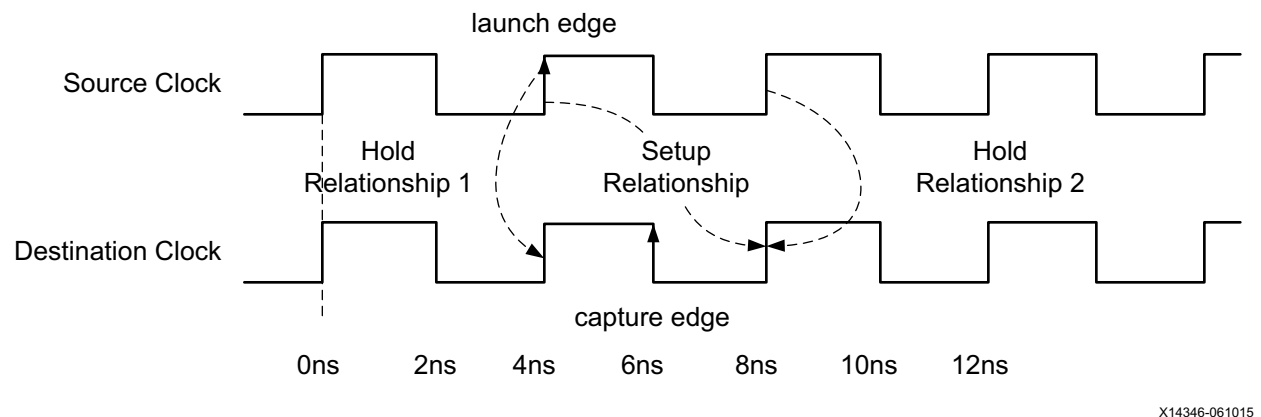

Figure 5-1: Example of Setup and Hold Relationships for a Path
IMPORTANT: There are two hold relationships for each setup relationship. (1) The first hold relationship ensures that the setup launch edge is not captured by the edge arriving before the active capture edge. (2) The second hold relationship ensures that the edge after the active launch edge is not captured by the active capture edge. The timing analysis tool calculates both hold relationships but only the most restrictive is kept during analysis and reporting. See Figure 5-1.